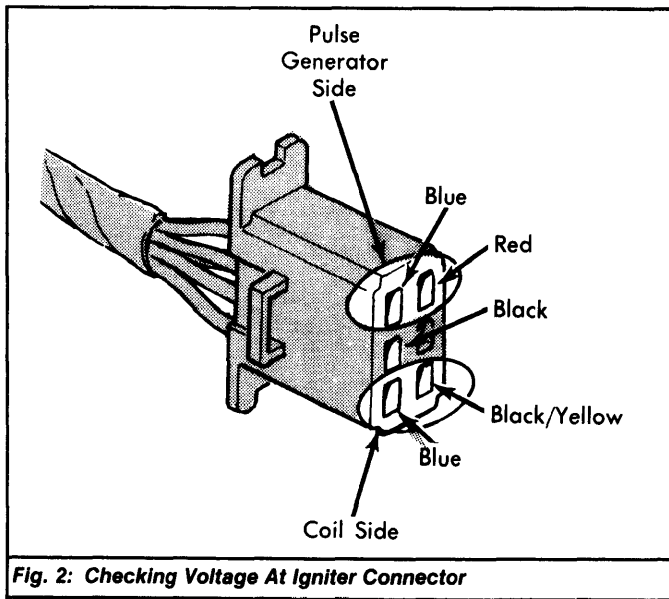

Fig. 2: Checking Voltage At Igniter Connector
- 7) If voltage in step 6) was not 1-3 volts, disconnect igniter connector. See Fig. 2. Check voltage on coil side of connector between Black and Blue wires and Black and Black/Yellow wires. Battery voltage should exist with ignition on.